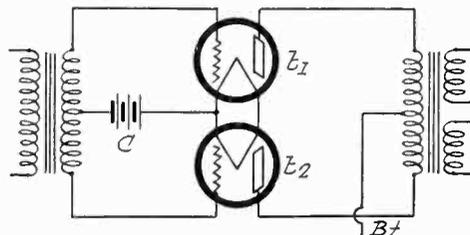

Fig. 4. Push-Pull Amplifier.
Equation (2) shows that the output current from a simple vacuum tube circuit has two components; one proportional to the input frequency and the other proportional to the square of that input frequency. It is possible to arrange a circuit such as that shown in Fig. 4 so that the output components